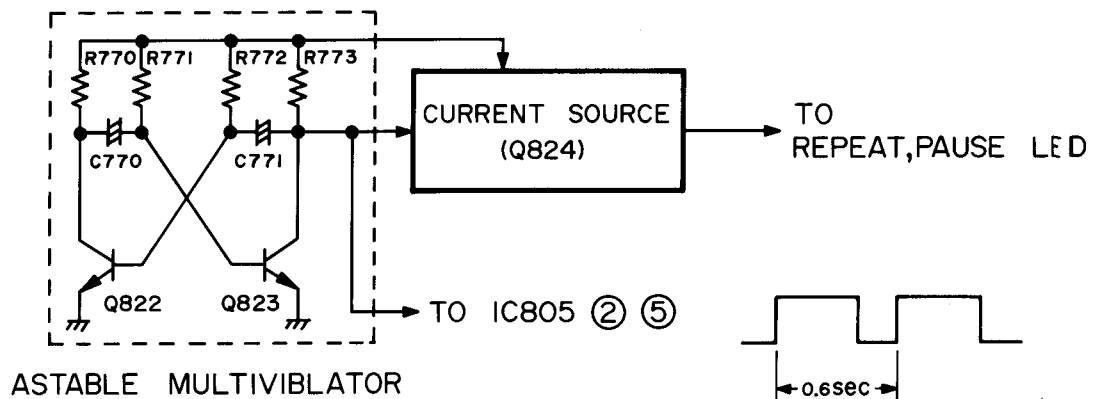

Figure 42-2
5.3.4 Flashing Signal Oscillator (Refer to Figure 42-2)